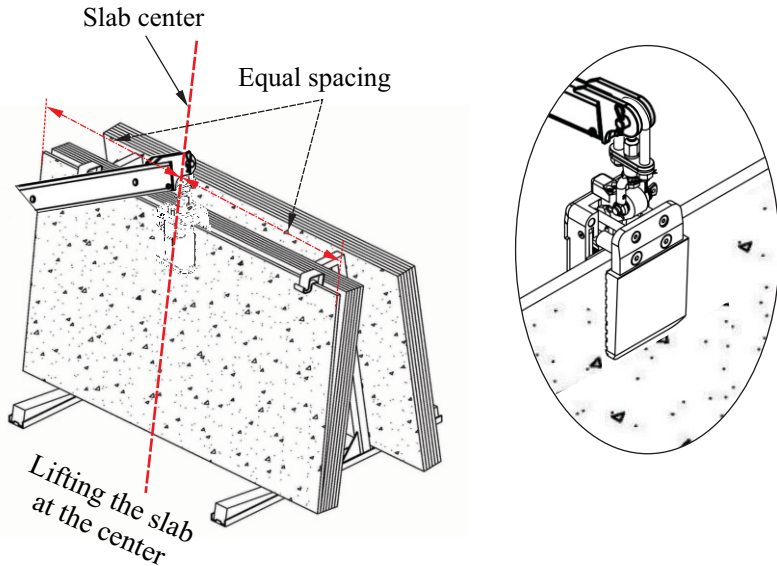

Figure 3.1
- Lower the device slowly so that the stone slab is perpendicular and at the center of two clamp plates (Figure 3.1)